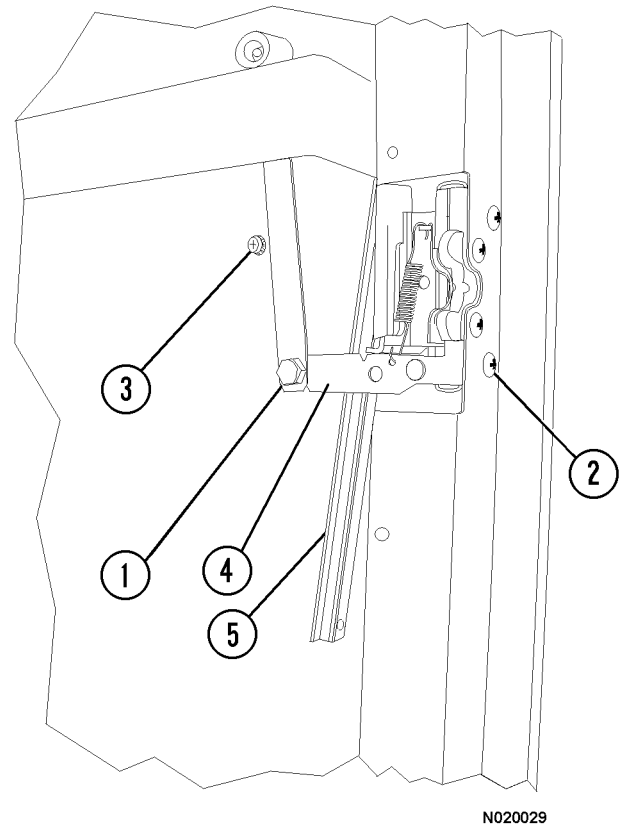

FIGURE 2-14.
3. Remove the capscrew and nut from inside release lever (1, Figure 2-14).
4. Remove four mounting screws (2) that hold the latch mechanism in the door.
5. Remove door latch mechanism (4). Check whether the door latch mechanism works properly by performing the following test:
6. Remove mounting screws (3) from the outside door handle. With the door handle removed, adjust the plunger counterclockwise to increase the height of the door handle release button. Lock the plunger capscrew with the locknut. Apply Loctite® to prevent the screw from loosening.
Ensure that the one channel in window frame (5, Figure 2-14) that is next to the door latch passes to the inside of latch assembly (4).
2. Remove capscrew and nut (1, Figure 2-14) from the inside door handle.
3. Remove four mounting screws (2) for the latch. Remove the latch assembly.
5. Install a new latch assembly and align the mounting holes. Install four mounting screws (2, Figure 2-14). Ensure that they are tight.
6. Align the inside door handle and install capscrew and nut (3).